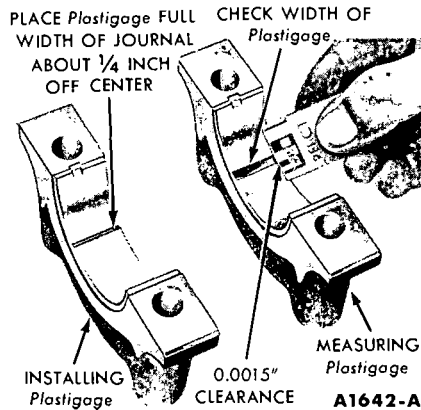

FIG. 50—Installing and Measuring Plastigage—Engine Installed
10. Place a piece of Plastigage on the bearing surface the full width of the bearing cap and about 1/4 inch off center (Fig. 50).